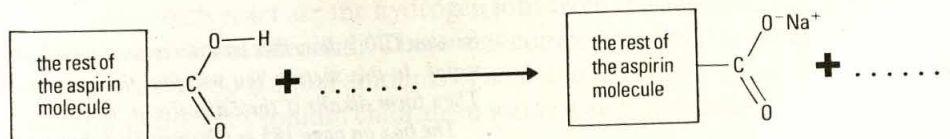

Figure 12.11
- 3 Figure 12.11 is an unfinished version of a simplified equation for the reaction of aspirin with sodium hydroxide. Copy and complete the equation.